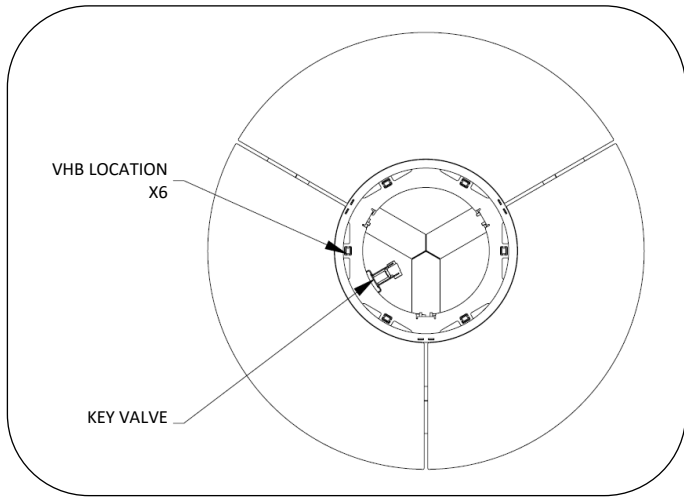

Fig. 3 – key valve and VHB locations
5. Set key valve in position on cover plate, see Fig. 3.
6. Remove adhesive backing on VHB tape located on burner support pan, see Fig. 3.